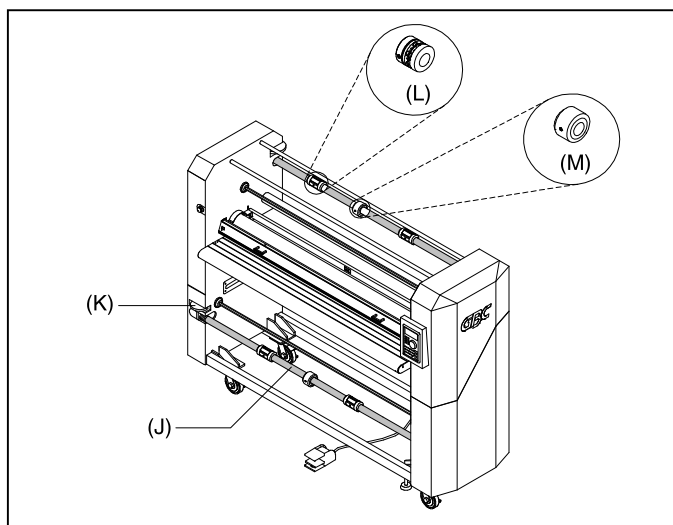

Fig. 14
**J. FILM SHAFT:** (Figure 14) The film shaft holds the film supply on the machine.
**K. FILM SHAFT BRAKE:** (Figure 14) Used to apply resistance to the film shaft. One for the primary / upper unwind and one for the lower unwind.
**L. CORE ADAPTORS:** (Figure 14) Hold and lock the rolls of film on the shafts to prevent side to side shifting.
**M. CENTER CORE SUPPORT:** (Figure 14) Supports the center of the film cores when placed onto the unwind shafts.